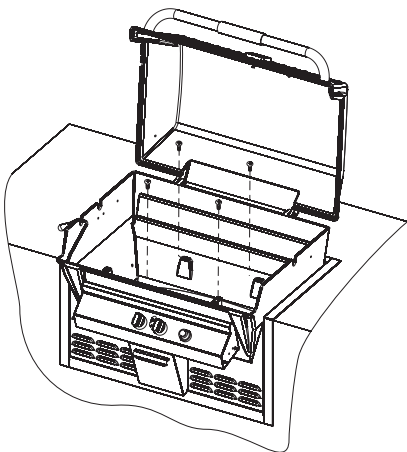

Figure 7
7. Mount the grill to the BHA surround using four 1/4-20 x 1 1/4" screws. See Figure 7.